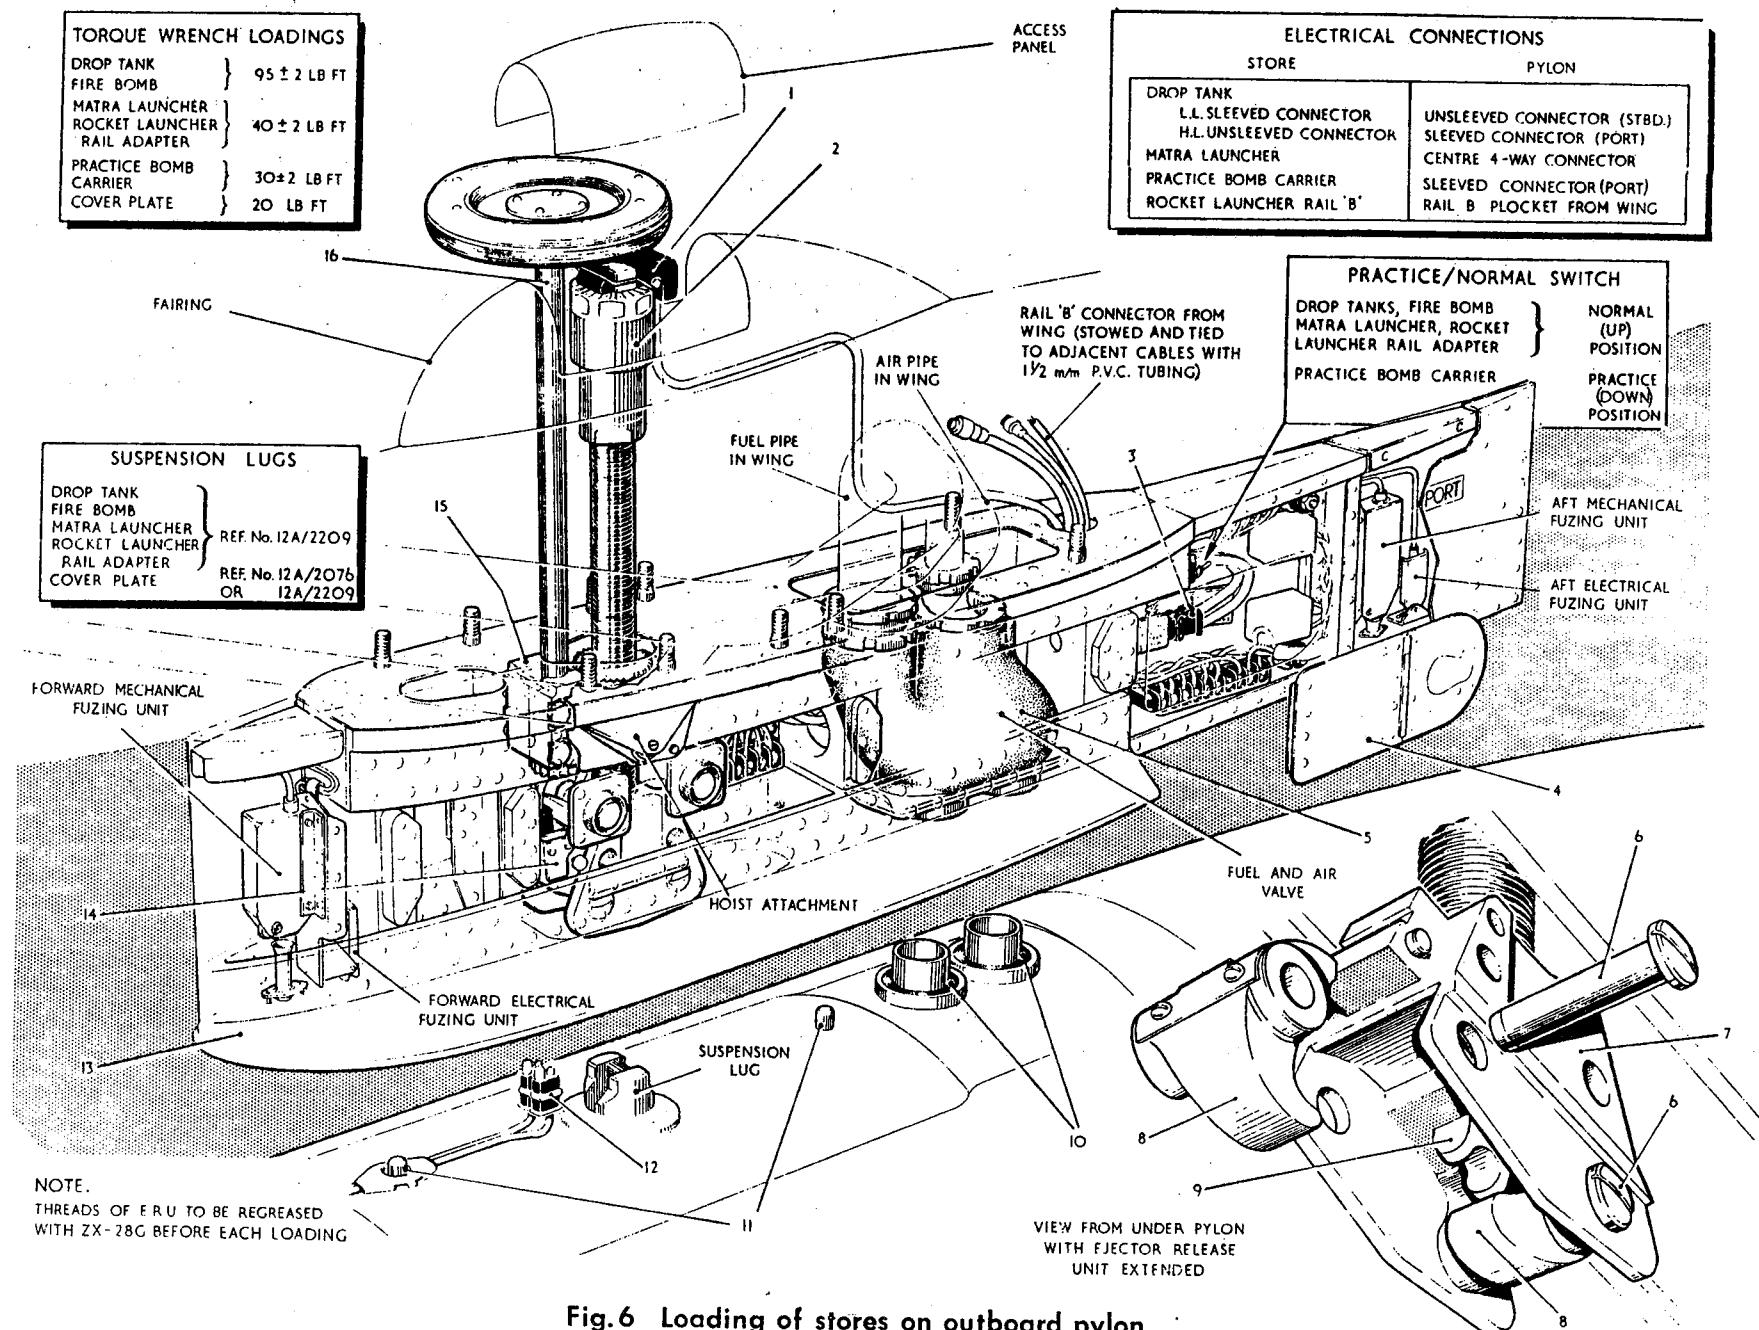

Fig.6 Loading of stores on outboard pylon
**Fitting and removal of outboard drop tanks (fig. 6)**
36. Three polythene bottles (*Sect. 3, Chap. 8, Fig. 6*) are provided for the drainage of any water that may exist in the hood and windscreen spray pipes. The bottles are provided with straps by which they are secured with pip-pins to mountings at frames 8 and 10 on the starboard side of the cabin and at frame 12 on the port side. Flexible drain pipes are attached to, and feed into, the caps of the bottles. Each bottle contains sponge rings, which are taped together to form single elements and to facilitate the removal of the elements from the bottles. At the periodicities specified in the relevant Servicing Schedules, the bottles with straps still attached, should be unscrewed from their respective caps, after first removing the pip-pins. The sponge elements should then be removed by means of the tapes, the elements squeezed dry, the bottles emptied and the elements replaced in the bottles. When replacing the bottles, it is essential to ensure that they are screwed fully home into their respective caps to ensure an effective seal before the pip-pins are refitted to secure the bottles into their mountings. Ensure that the vent holes in the caps are not obstructed.